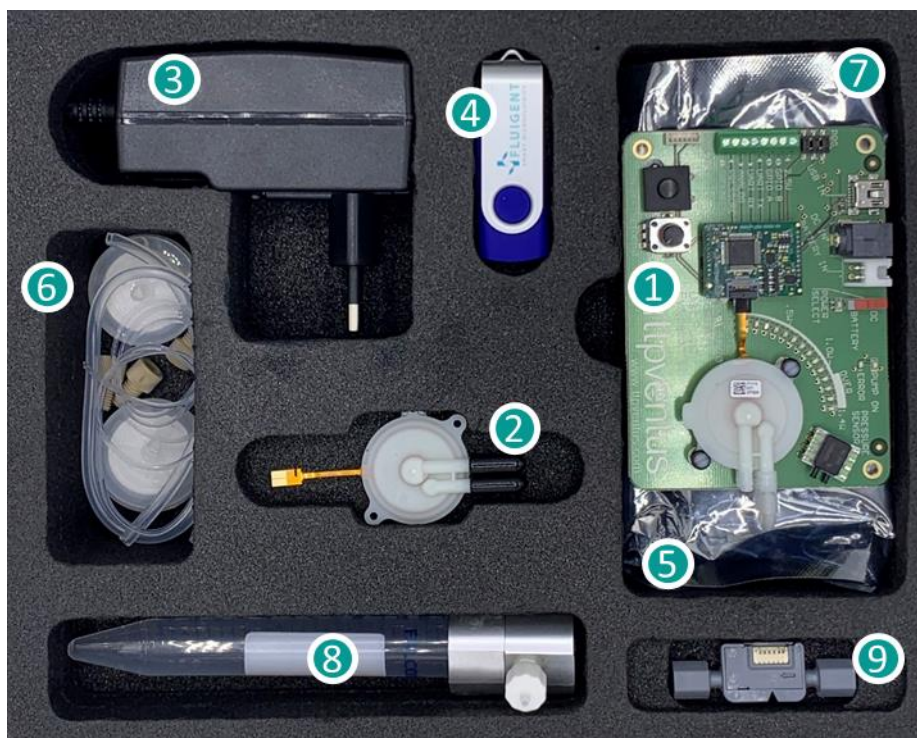

Figure 1: Disc Pump Evaluation Kit components
- Remove the motherboard PCB (Figure 1 - 1) from protective ESD bag.
- Power the board with the mains power supply (Figure 1 - 3).
- The USB flash drive (Figure 1 - 4) contains manuals, a video on system operation and PC software for configuration, control and data logging.
- Also included is a second pump (Figure 1 - 2), USB cable (Figure 1 - 5) and accessories kit of tubing, filters and connectors (Figure 1 - 6).
- Raise the black tab on the FPC connector (Figure 1 – 4) so that it is in the open position as per 3.
- Unscrew the pump mounting screws (Figure 1 – 2a/b).
- Fit the pump to the stand-offs (Figure 1 – 2a/b) with the screws and o-rings provided (ensure that one o-ring is above each mounting eye of the pump, and one below each mounting eye).